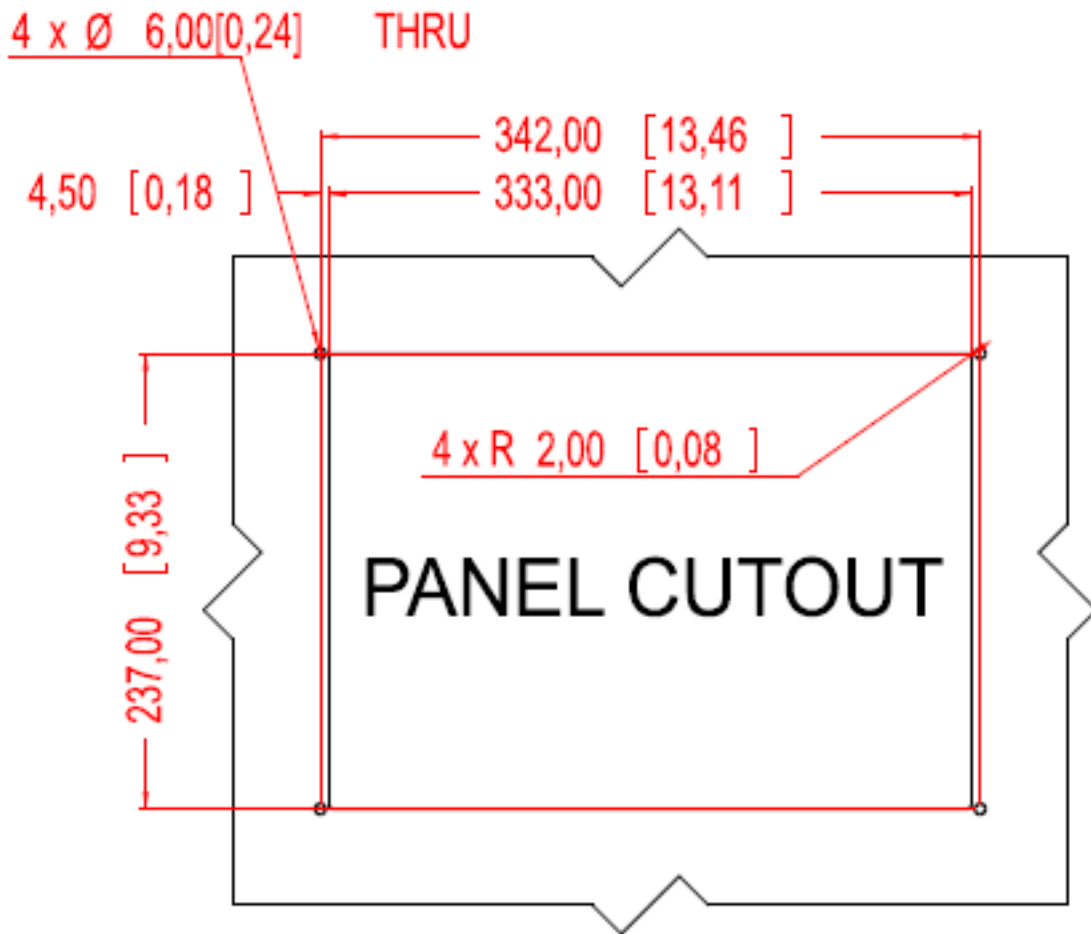

Figure 2 – TSM1330 Cutout Dimensions (units in mm [inches])
| Figure 2 – TSM1330 Cutout Dimensions (units in mm [inches]) | 6 |
Step 2: Cut out a section from the panel that corresponds to the rear panel dimensions of the TSM1330. Take care that the panel section that is cut out is smaller than the overall size of the front panel of the TSM1330 but just large enough for the rear panel of the TSM1330 to fit through, according to the dimensions in Figure 2 above.
Step 3: Drill four 6mm holes for the M5 studs protruding from the four corners of the front panel according to the dimensions in Figure 2 above.